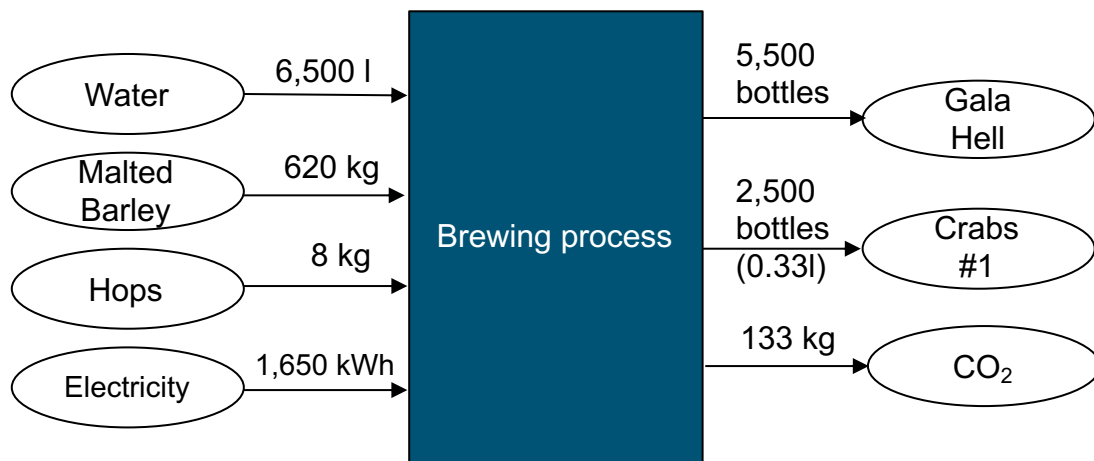

Figure 2: Brewing process
- d) Determine the system vector of the brewing process (Figure 2) using the activity analytical model. Then use this system vector and the characterization factor matrix (Figure 3) to calculate the impact categories global warming in [CO₂ eq] and noise [dB].